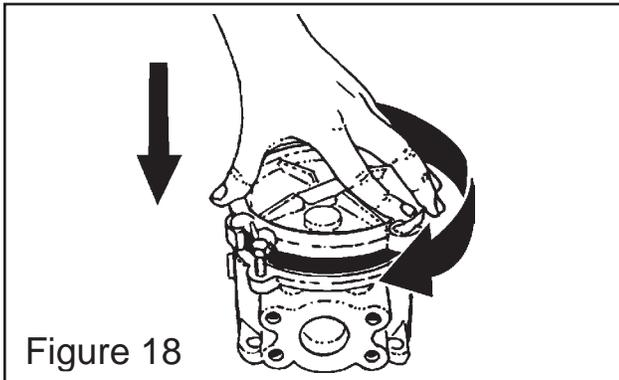

Figure 18
5. Replace filter cover. Sit the filter cover down onto the spring. Push cover down and turn counter clockwise until the three bolts slide into the slots. (See Figure 18)